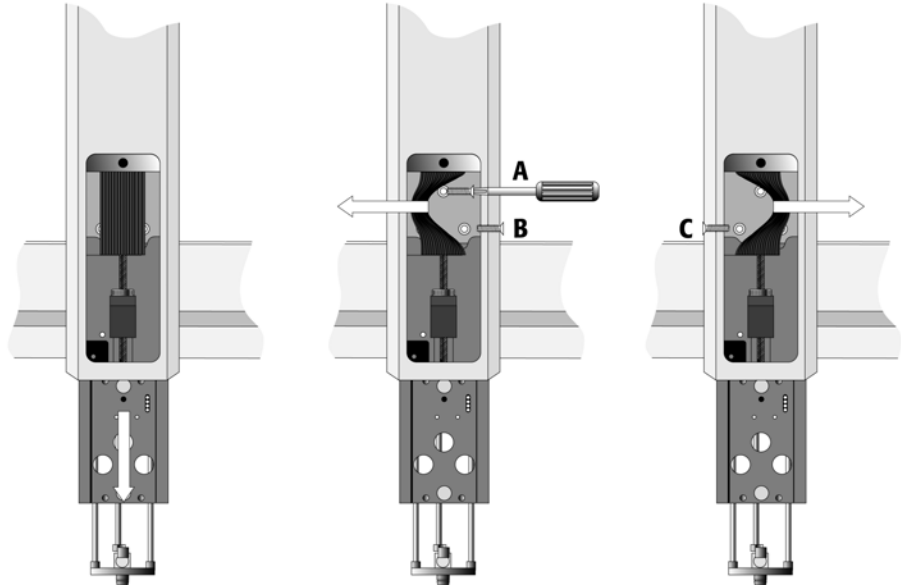

Figure 8. Inserting the Injection Unit Mounting Torx Screws
Installation of the Injection Unit should be done carefully. When installing it for the first time, have someone hold it in place while the mounting screws are inserted (see Figure 8).
- 4 Position the LC PAL at the edge of the table. The extended Injection Unit will be lower than the table surface. Extend the slider of the Z-Crossrail to the full stop. Locate the three large holes behind the flat ribbon cable, above the black anodized frame (slider) in the back-panel of the Z-Crossrail. Insert and securely tighten the Torx screw **A** (see Figure 8).
- 5 Install the two remaining Torx screws **B** and **C** in the left and right mounting holes, respectively. It may be necessary to move the flat ribbon cable slightly to insert the Torx screws (see figure 8).